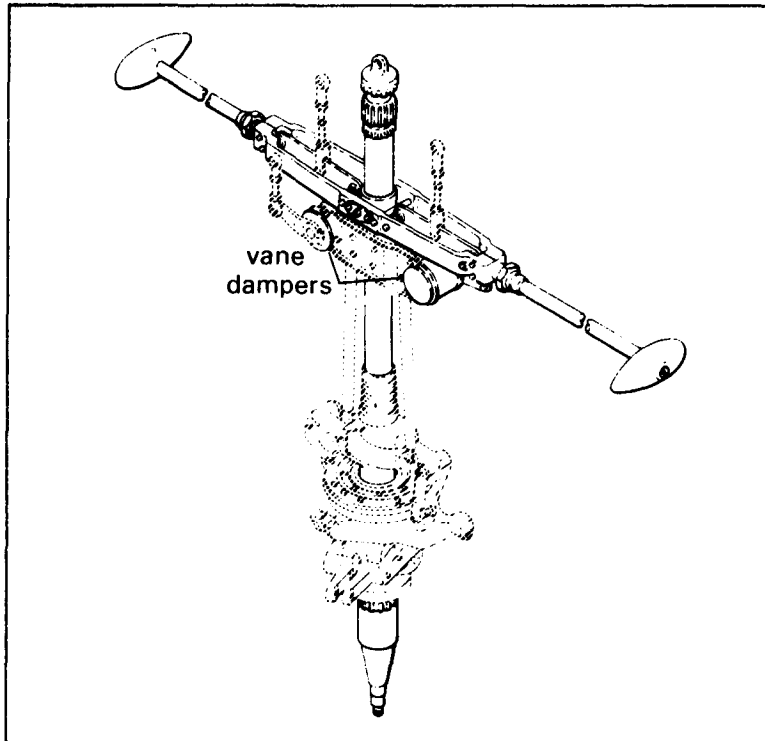

Figure 11-9. Stabilizer bar with vane dampers.
- **Stabilizer bar damper.** Some helicopters have vane-type dampers that control the degree of sensitivity with which a helicopter responds to movements made by the pilot on the flight controls. (See Figure 11-9.) These dampers are mounted on a bracket attached to the helicopter mast (main shaft). The damper arms are interconnected with other parts of the flight control system.